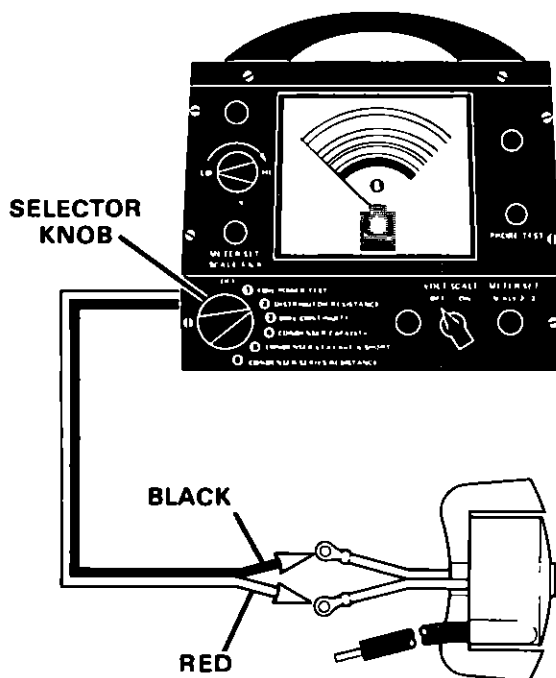

Figure 39. Testing Coil Continuity. Test #1
- 2 Connect small red test lead to either primary terminal. Connect small black test lead to remaining primary terminal. Figure 39